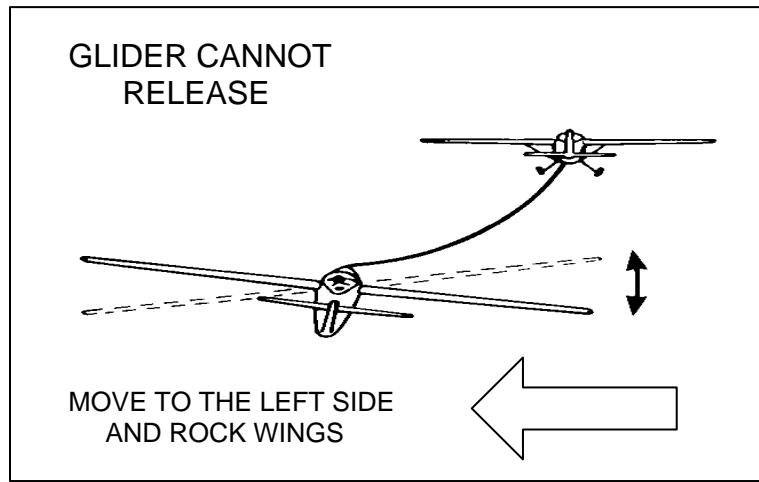

Figure 2-7-3 Glider Cannot Release
- b. If radio communication is unsuccessful, the glider shall be flown out to the **left and level with the tow aircraft** so as to be in a position to be easily viewed by the tow pilot. Once this position has been achieved, the glider wings shall be briskly banked back and forth to indicate to the tow pilot the failure to release. See Fig. 2-7-3.